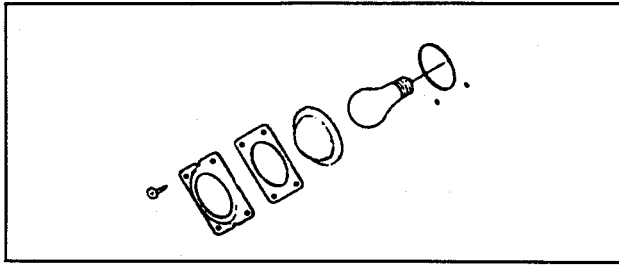

Figure 3-2
**Self-clean ovens:** Remove four screws and plates, *see figure 3-2*. Use care when removing gasket, it may tear. Replace with a 40-watt APPLIANCE bulb. Reconnect power to the oven.